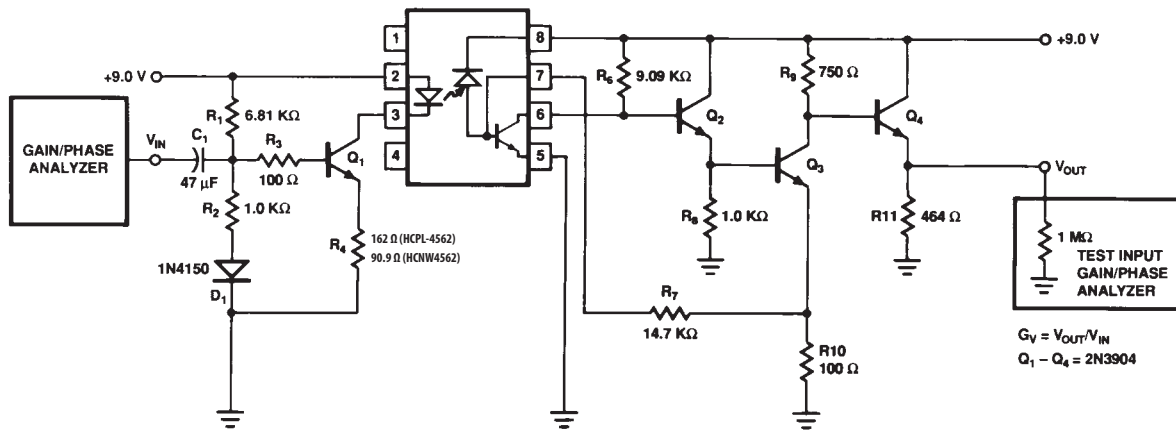

Figure 1. Gain and bandwidth test circuit
- When used in the circuit of Figure 1 or Figure 4; $G_V = V_{OUT}/V_{IN}$; $I_{FQ} = 6\text{ mA}$ (HCPL-4562), $I_{FQ} = 10\text{ mA}$ (HCNW4562).